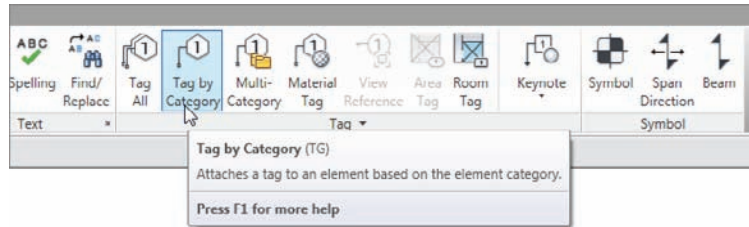

FIGURE 11.61 Click Tag By Category on the Annotate tab.
- On the Tag panel of the Annotate tab, click the Tag By Category button, as shown in Figure 11.61.